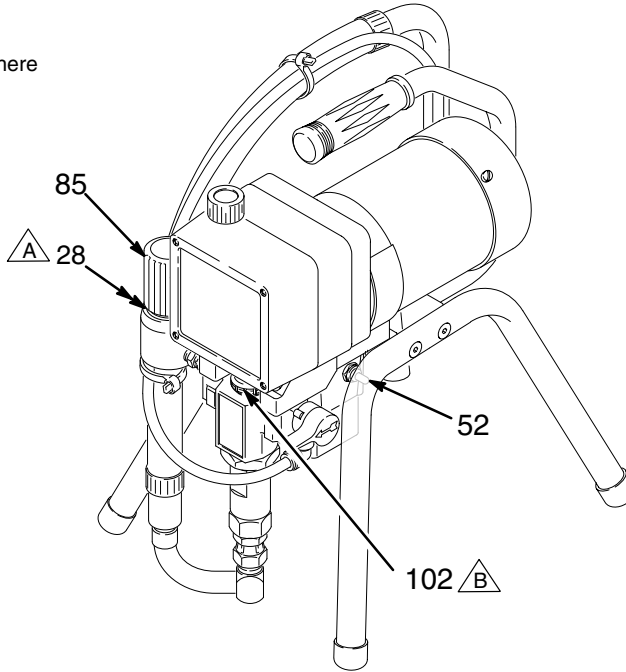

Fig. 3
3. Never install any shutoff device between the filter and the hose. See Fig. 3.